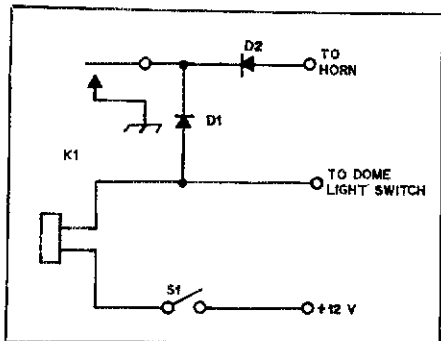
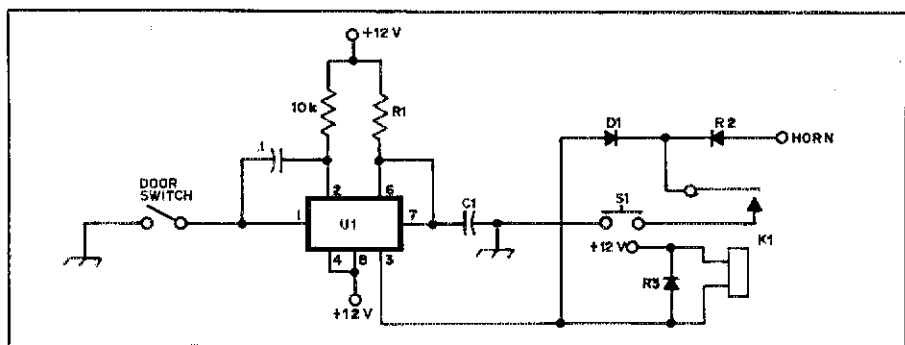

Fig. 1 — This original alarm circuit was manually set by switch S1. Opening the door would then sound the horn.
Fig. 2 — The revised alarm circuit is always "on." Before activating the horn, opening switch S1 starts the time delay, determined by R1 and C1.
Thus far, my alarm had cost me less than \$1.50 and three hours of sleep. It was time to increase my investment. The next morning, over several cups of coffee, I sat with paper and pencil and came up with the revisions shown in Fig. 2.
□ In "More PEP — Less Paint" ("Hints and Kinks," QST for July), the diodes CR1 through CR4 were inadvertently drawn in reversed order. The correct form is shown on page 333 of *The Radio Amateur's Handbook* for 1977. WA2FIJ stresses importance of installing a back cover on the wattmeter. The LM1458 chip he used is an 8-pin version, not a 14-pin type. In Figs. 1 and 2 the +9-V and -9-V terminals should appear as in Fig. 2.